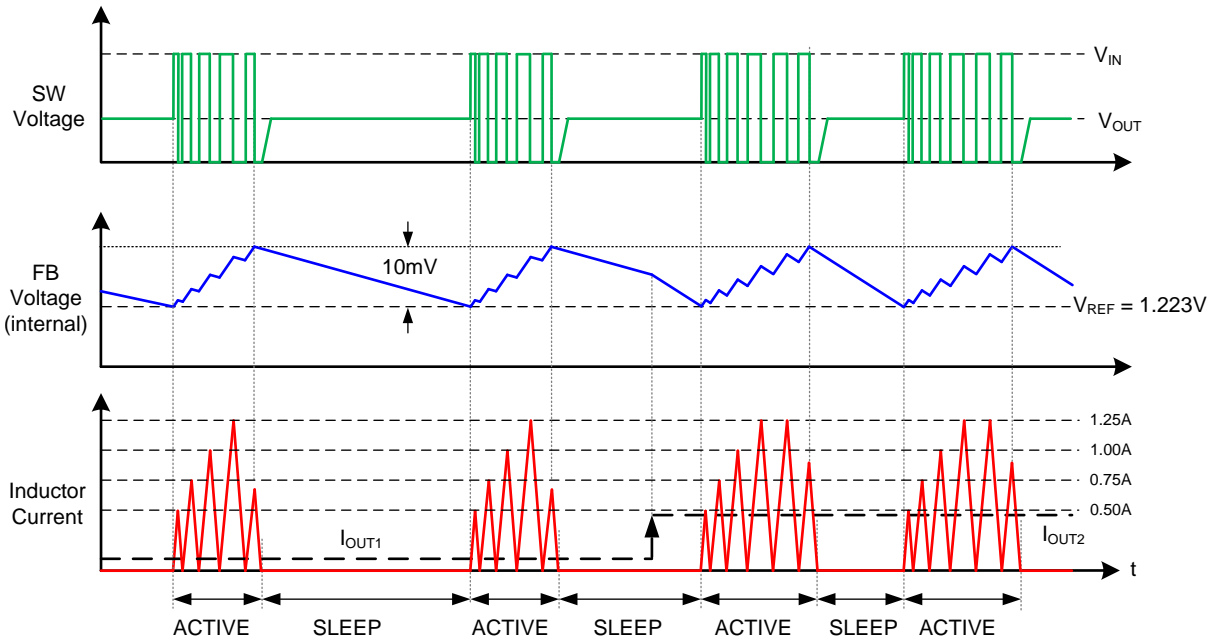

图 42. PFM Mode With Modulated I_{LIM}, Output Voltage and Inductor Current Representative Waveforms
One of the supported ILIM settings enables a function that modulates the peak current threshold levels during the first three switching cycles of each active period as illustrated in 图 42. This function improves efficiency under most application conditions at the expense of slightly degraded load transient response.
- (1) For this current limit threshold selection, the ILIM pin may also be left open instead of using a 100-k Ω or greater resistor.
- (2) This I_{LIM} setting enables a function that modulates the I_{LIM} levels during the first three switching cycles as illustrated in 图 42.